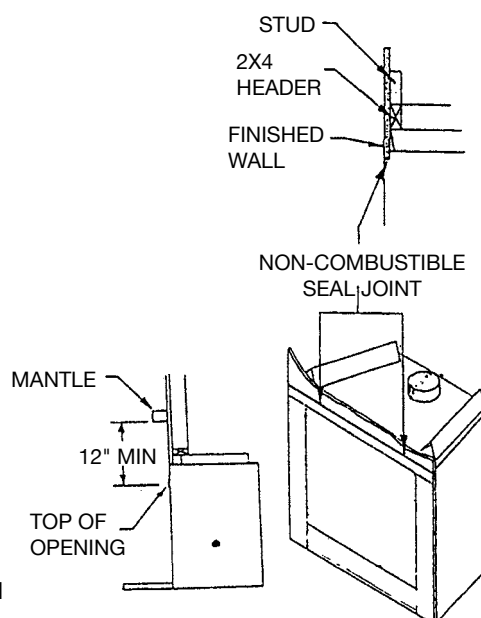

Figure 1
Finish the wall with the material of your choice. Do not install a combustible mantle or other combustible projection above the fireplace opening unless it is a minimum of 12 inches above top of fireplace opening. (Figure 1)
**CAUTION:** All joints between the finished wall and the fireplace surround (Top and Sides) can only be sealed with non-combustible material. Only non-combustible material can be applied as facing to the fireplace surround. (Figure 1)